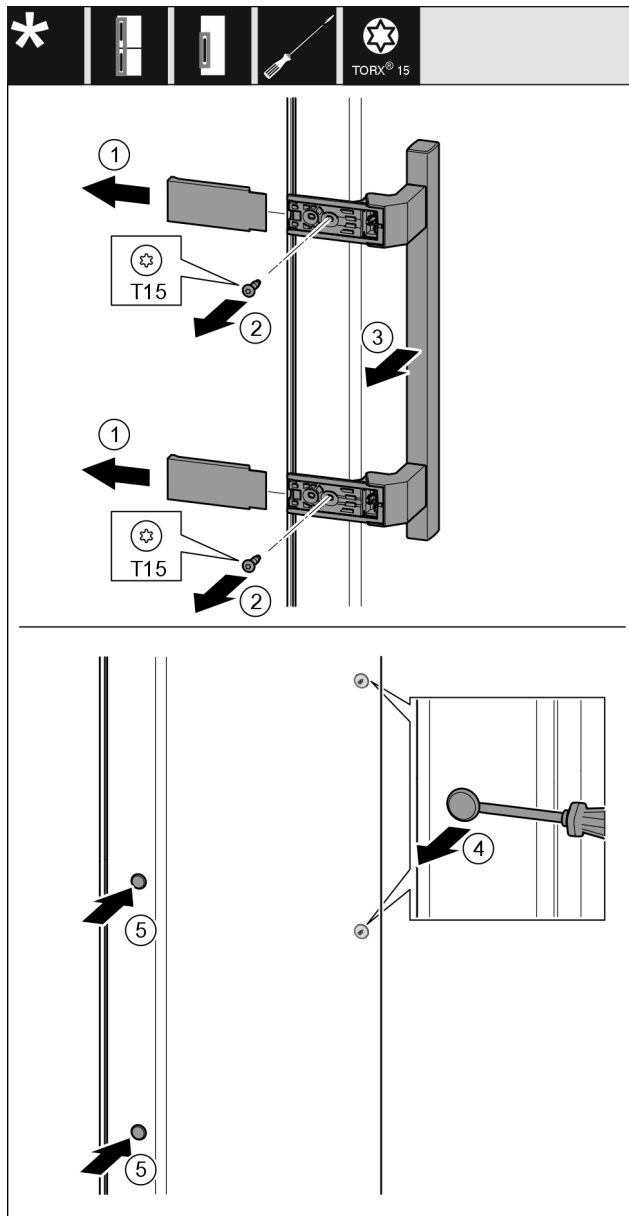

Fig. 22
- Remove the cover Fig. 22 (1).
- Unscrew screws Fig. 22 (2) with screwdriver.
- Remove the handle Fig. 22 (3).
- Use a slotted screwdriver to lift the side plug Fig. 22 (4) carefully and pull it out.
- Re-insert the plug Fig. 22 (5) on the other side.